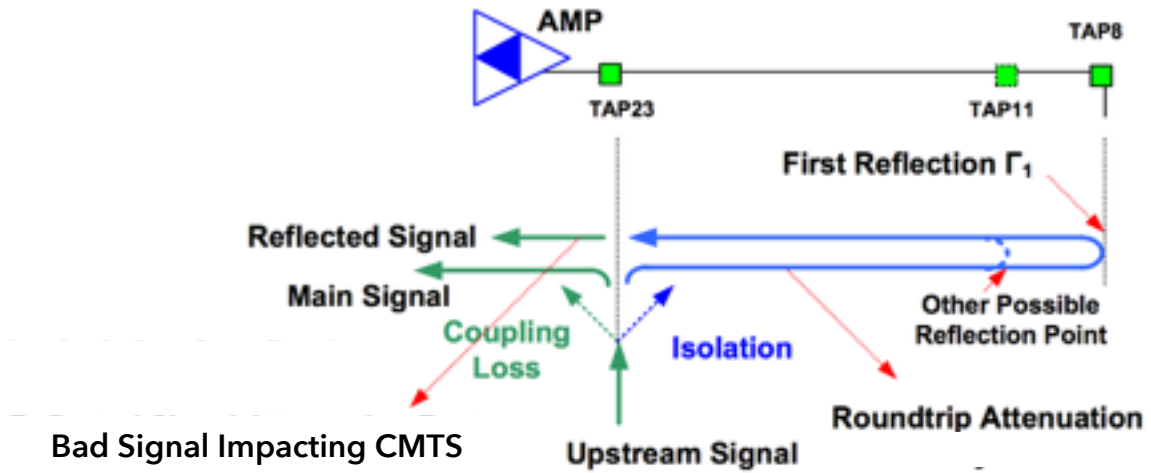
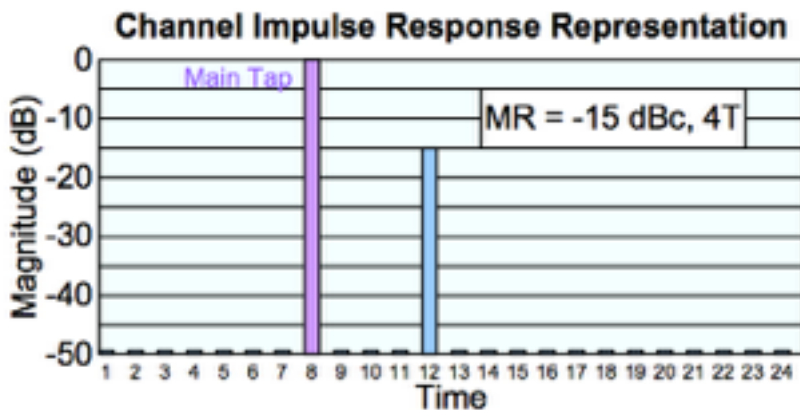

Figure 1: Reflected Cable Modem Signal (Source: CableLabs)
Figure 2: Pre-EQ Taps for Modem with Impairment in Figure 1
As the reflected signal propagates on the downstream it will eventually hit another active or passive device that will not pass upstream signals on the downstream. This will then reflect the original reflected signal back towards the CMTS in the direction it was originally meant to go. See Figure 1 for an illustration of how this works in theory.
**Note:** it is important to understand the difference between a 'physical tap' as in Tap 23 or Tap 11 shown in figure 1. These are used to drop coaxial cables to subscriber's homes and digital signal processing taps also called equalizer taps as shown in figure 2.
Analyzing figure 1 we see that physical Tap 23 is the source of the impairment. Some of the "main signal" is able to pass through physical Tap 23, however some signal is reflected by Tap 23 and reverses direction on the coax, now heading in the downstream direction. When it hits physical Tap 8 the reflected signal is prevented from going any further downstream because Tap 8 is assumed to have electronics inside not allowing upstream signals to travel on the downstream (often this may be an active device such as an RF amplifier). The blue line shows the round trip distance, which is twice the span of the coaxial cable. The corresponding equalizer response for the Figure 1 is shown in figure 2 below:
Figure 2 is an idealized tap response that shows one reflection at pre-eq tap 12. This must not be confused with physical Tap 23 and physical Tap 11, which are mainline passive devices in figure 1. The
Since pre-eq tap 12 is elevated we can estimate the distance to the impairment as four (4) taps after the main pre-eq tap (tap 8) as shown on the chart in figure 2. If the upstream DOCSIS channel is 3.2 MHz then each pre-eq tap represents approximately 170 feet, while if the upstream channel is 6.4 MHz each pre-eq tap represents approximately 85 feet.
Notice that the vTDR not only reports the impairment distance, but also indicates if the impairment is an 'open' or a 'short'. First consider the example in figure 1. The vTDR is telling us that distance from physical Tap 11 to physical Tap 23 (the impairment) is 777 ft. Next it is telling us that the source of the impairment is an 'Open'. What does an Open condition mean? See the tip chart on the left.